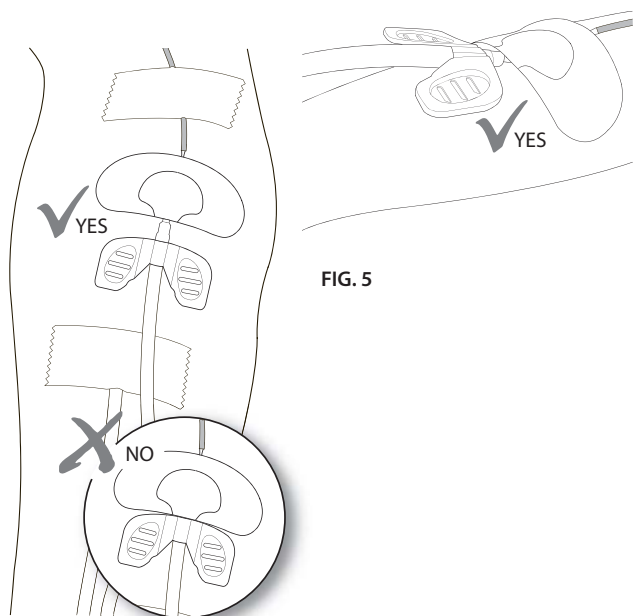

FIG. 5
- 4.** Apply the sensor patch to the skin over the needle with the absorbent part of the patch centered over the puncture. Make certain that the sticky part of the patch does not cover the wings. *Fig. 5* shows how the sensor should be placed in position.